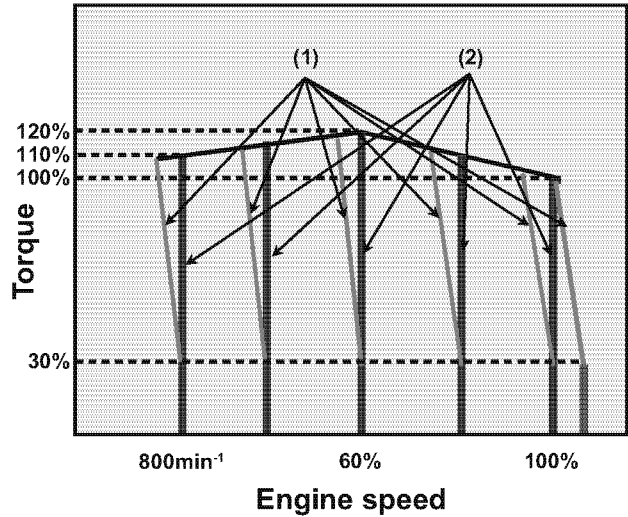

Figure 20
Figure 20 shows typical engine speed curves that outline the relationship between engine speed and load.
The VM series engines for general use are designed so that the engine speed is reduced by a certain percentage from 30% load to full rated load. See curves (1) in Figure 20 below. The same percentage droop is maintained at any no-load speed.
The CL series consists of isochronous design engines, the speed of which is kept constant from no load to full rated load. See curves (2) in Figure 20 below.